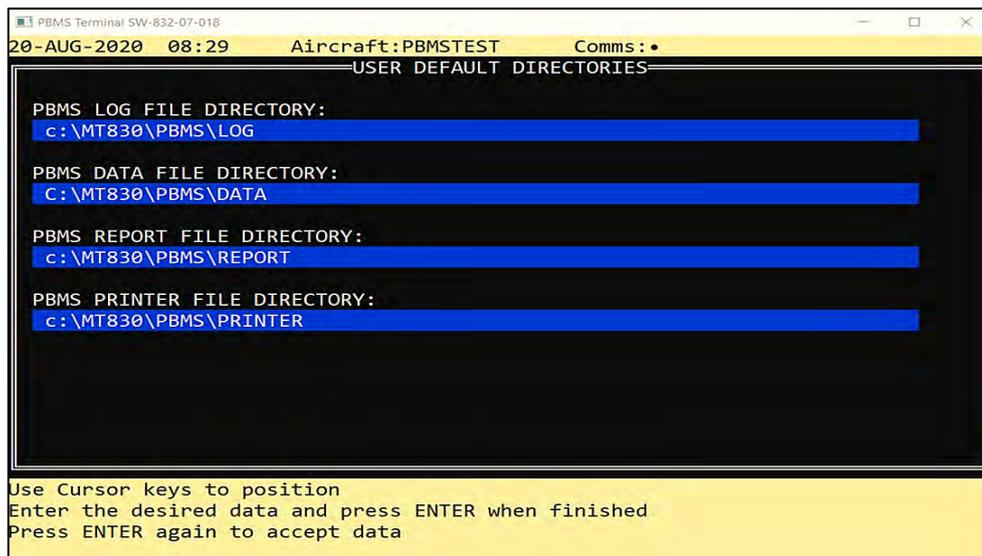

Figure 5-3 User Default Directories
- (1) Select User Default Directories from the Set-up Menu and Press <Enter>. The PBMS Terminal will show the list of User Default Directories. **(Ref Fig 5-3).**
- (1) To Exit the PBMS terminal, select Exit from the Main Menu. The Message Exiting PBMS Terminal Program. Log File Name **C:\MT830\PBMS\LOG\ZZZZZZZZ.log** will be shown on the PBMS Terminal display. The saved log file is a Text file record of the communications between the PBMS Terminal and the Controller during the Maintenance Session.
- (a) **PBMS** is a sub directory set in the User Default Directory (**Ref Fig 5-3**).